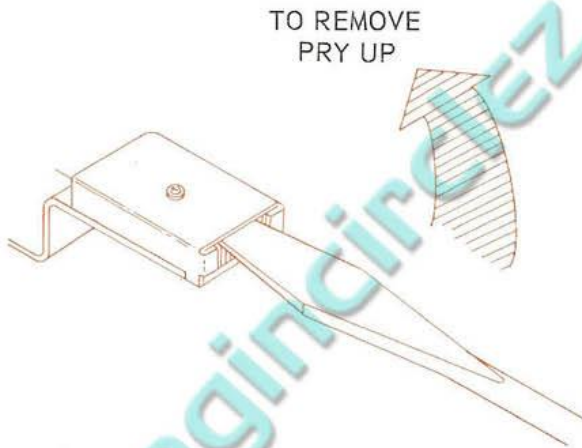

FIGURE 2
a. Insert screwdriver blade into coupler pocket, pry upward, and lift out coupler (see figure 2).